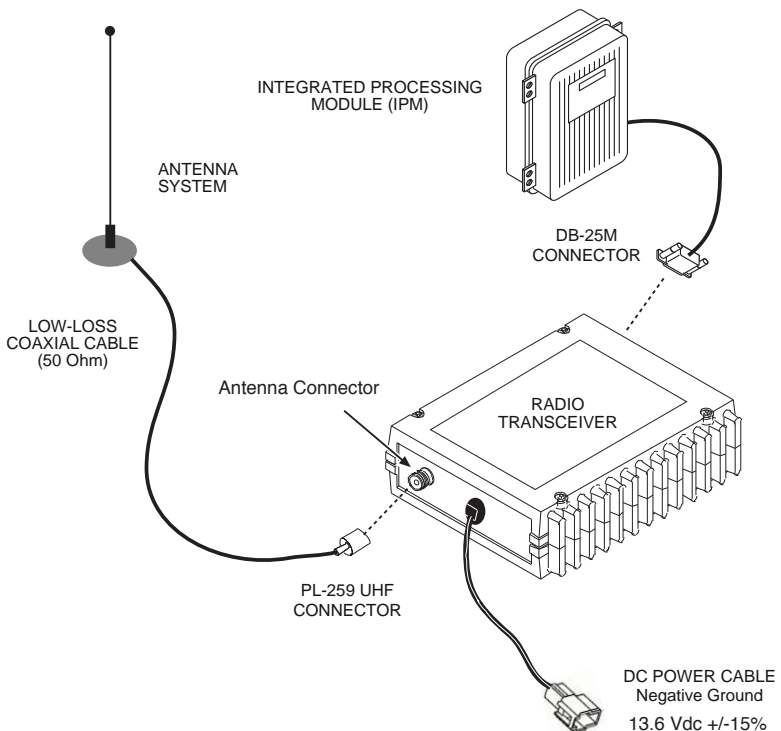

Figure 4. Typical Station Arrangement
Figure 4 shows a typical station arrangement. This is followed by step-by-step procedures for installing the transceiver and making front and rear panel connections.
Below are the basic steps for installing the transceiver. Refer to Figure 4 as necessary when making cable connections.
4. **Connect primary power to the transceiver.** Power applied must be 13.6 Vdc (+/- 15%) and capable of providing at least 8 Amperes of continuous current. A power connector with is provided with each unit (see **Figure 4**).